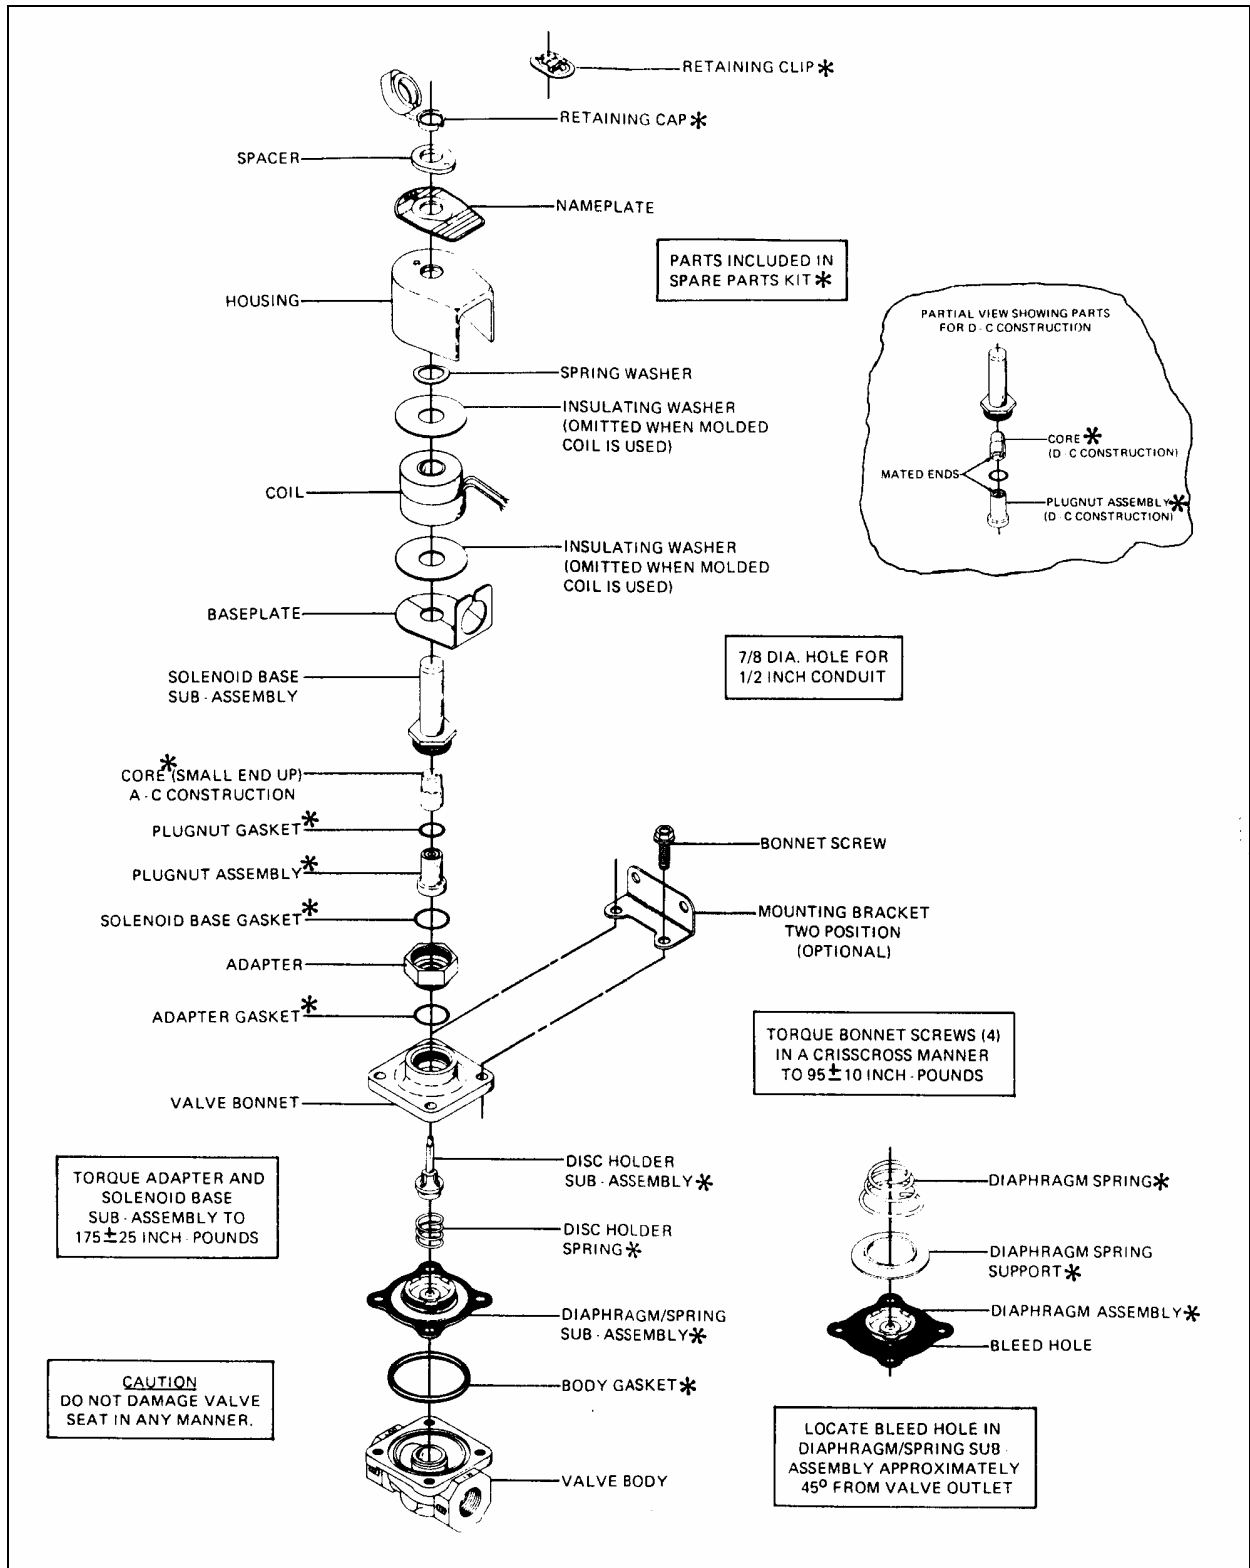

FIGURE 52: DRIVER'S WATER SOLENOID VALVE
3. Coil is now accessible for replacement. Reassemble by reversing sequence of disassembly. Refer to exploded view (Fig. 52) for identification and location of parts.
3. Disassemble valve in an orderly fashion paying careful attention to exploded view (Fig. 52) provided for identification of parts.
1. Reassemble in reverse order of disassembly, paying careful attention to exploded view provided for identification and placement of parts (Fig. 52).